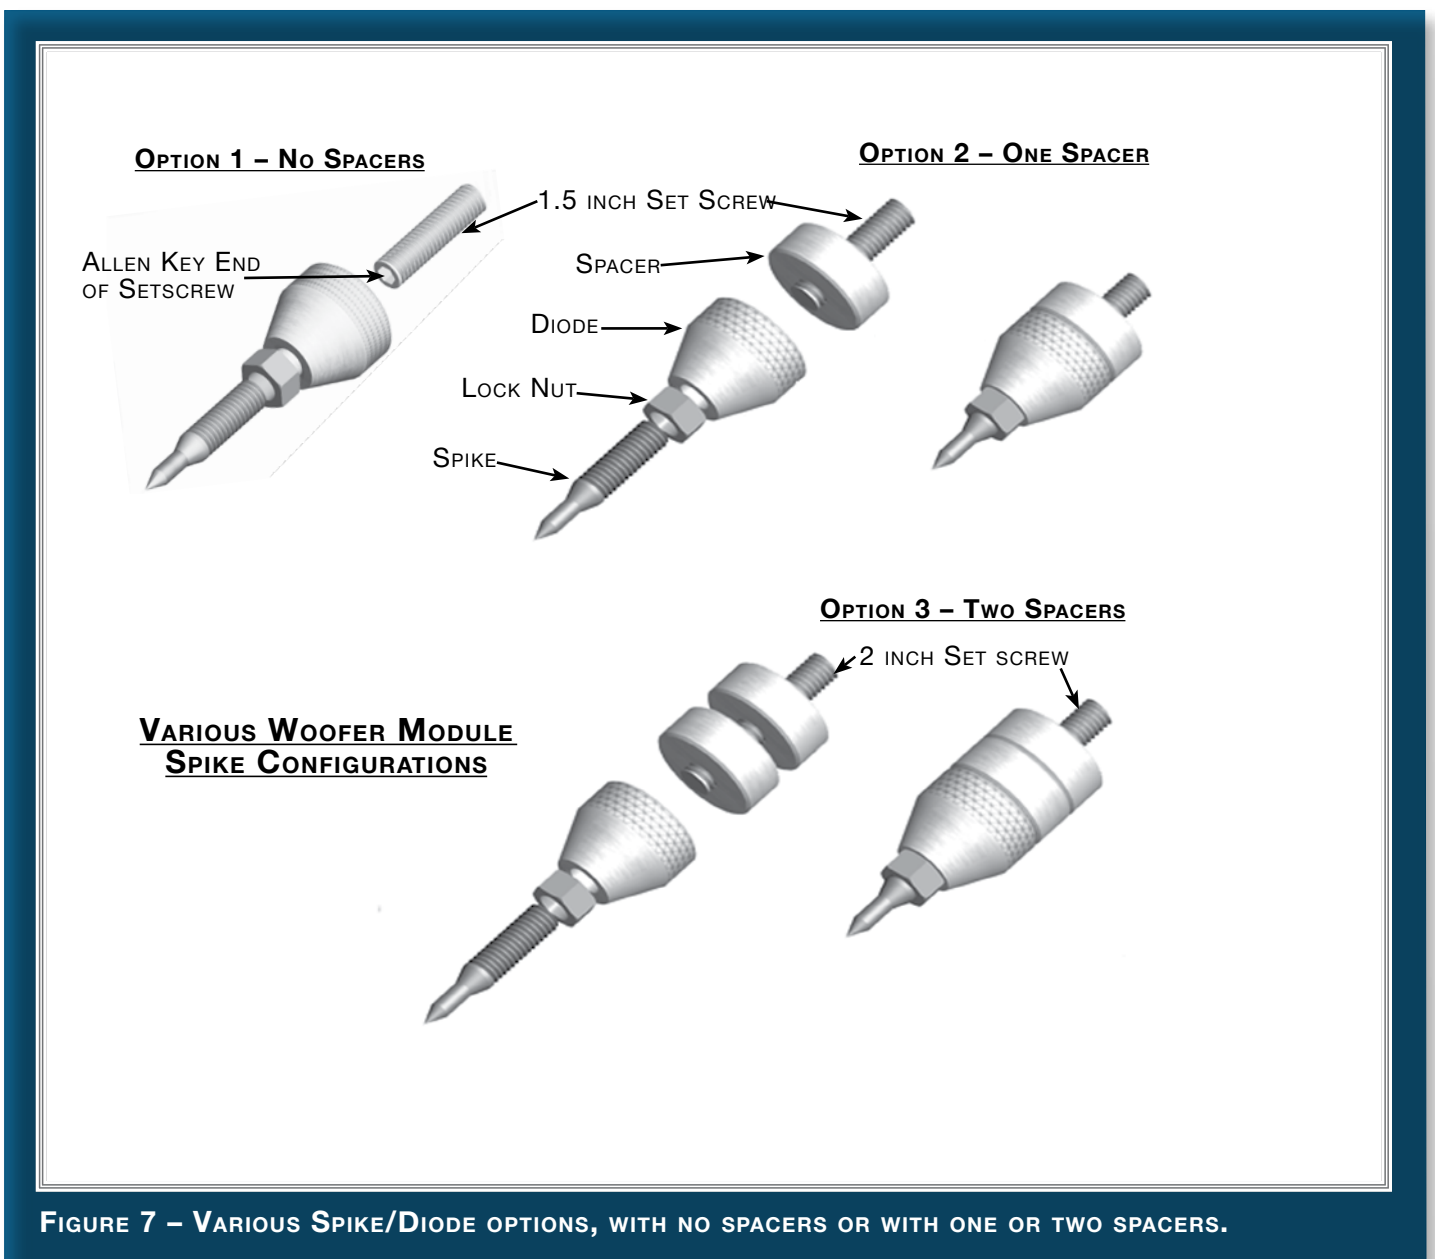

FIGURE 7 – VARIOUS SPIKE/DIODE OPTIONS, WITH NO SPACERS OR WITH ONE OR TWO SPACERS.
3. Screw the set screw into the diode until it meets the spike (see Figure 7).
4. Locate either the 1.5 inch or 2 inch (See Figure 7) set screw. The 1.5
inch is used with spikes and no spacers and with one spacer; the 2 inch is used with spikes and two spacers. Place the set screw into the other end of the diode with the Allen head toward the spike. Make sure the Allen key end is toward the spike end of the diode (See Figure 7). This will enable you to remove the bolt if necessary.